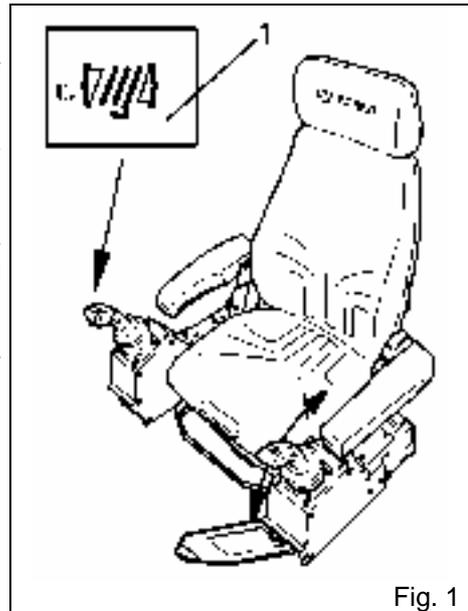

Fig. 1
- Actuate the rocker switch (Fig. 1, item 1) to the left. The auxiliary hoisting gear is connected.
The hoisting gear speed can be controlled depending on the travel of the crane control lever (see Fig. 1) and by increasing the hoisting gear speed.
- Change over rocker switch (Fig. 1, item 1) and rocker switch **25**; now the auxiliary hoisting gear is switched OFF.